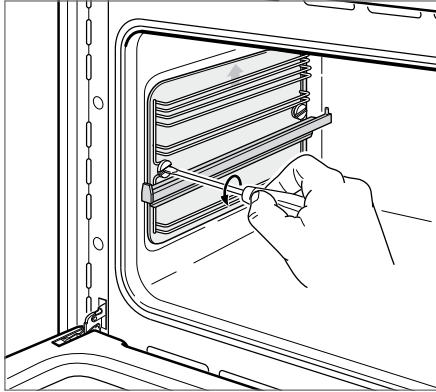

Fig.32 Removing the side racks and catalytic panels
The catalytic panels are covered with a special microporous enamel which absorbs and does away with oil and fat splashes during normal cooking over 200 °C. If, after cooking very fatty foods, the panels remain dirty, heat the oven on maximum for an hour to an hour and a half, and they will self-clean. The side panels are reversible. Make sure that you replace them with the arrow up, and on the correct side. To remove the side catalytic panels, you first need to unscrew the side racks. See Fig. 32.
- 1 Remove the side racks by unscrewing the fixing screws (Fig. 32).